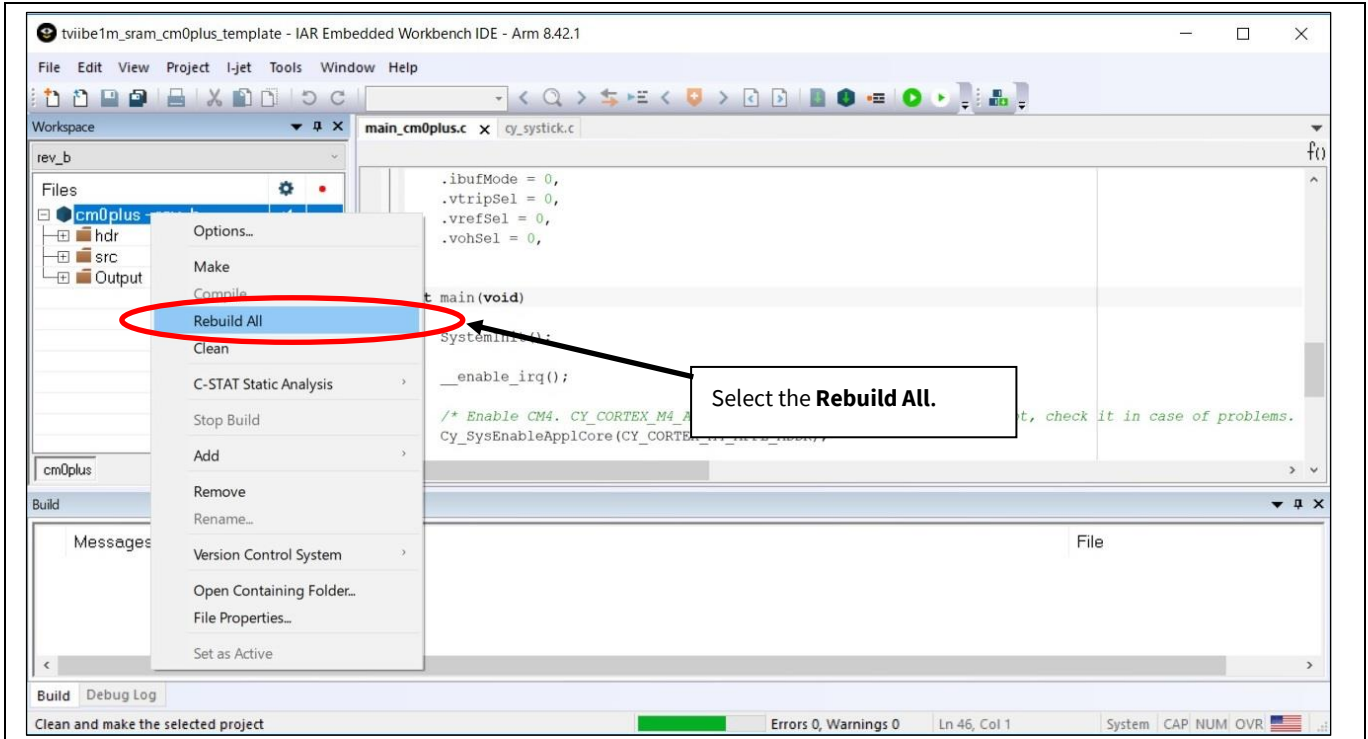
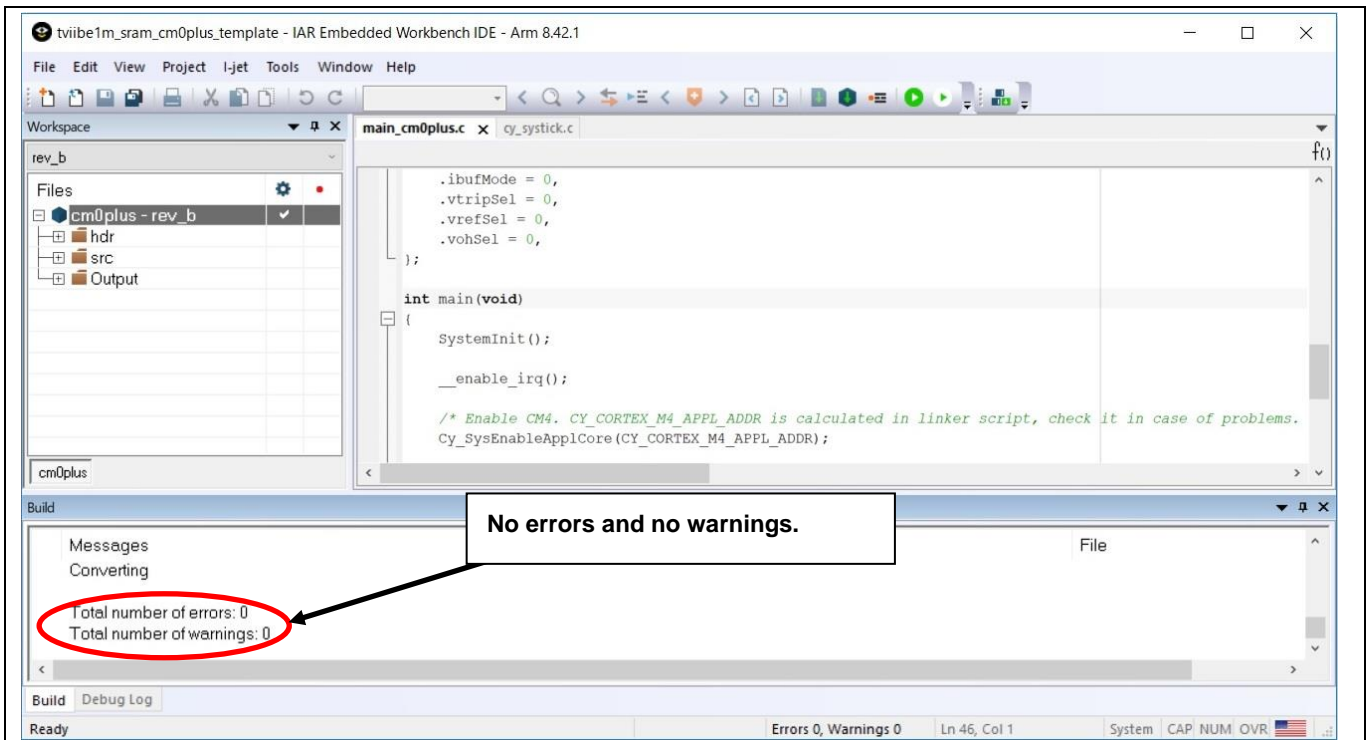

Figure 21 Rebuild the Project of SDL Project
Figure 22 Rebuild Successful of the Project of SDL Project
- For the build, select *cm0plus.eww* on the workspace and right-click and select **Rebuild All** as shown in **Figure 21**. The Rebuild All process starts, and no errors and no warnings messages appear as shown in **Figure 22**.